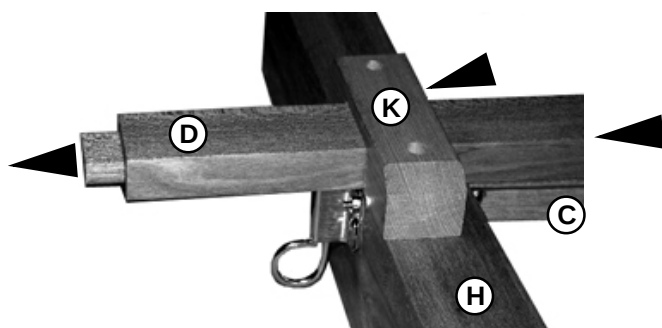

FIG 8
STEP 8. Attach Ratchet/Center Column assembly by inserting the lower end of the Ratchet Column through the Lower Canvas Support "U" Bracket [K]. Please Note: When inserting the ratchet assembly, proceed to push through until you hear the ratchet "CLICK" into place. See FIG 8.